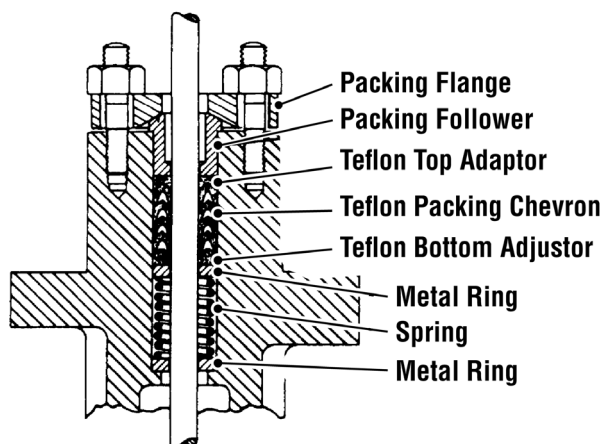

Figure 3 Teflon Chevron packing diagram
2. Assemble the valve stem nut and travel indicator disc onto the valve plug stem, as shown in Fig. 3